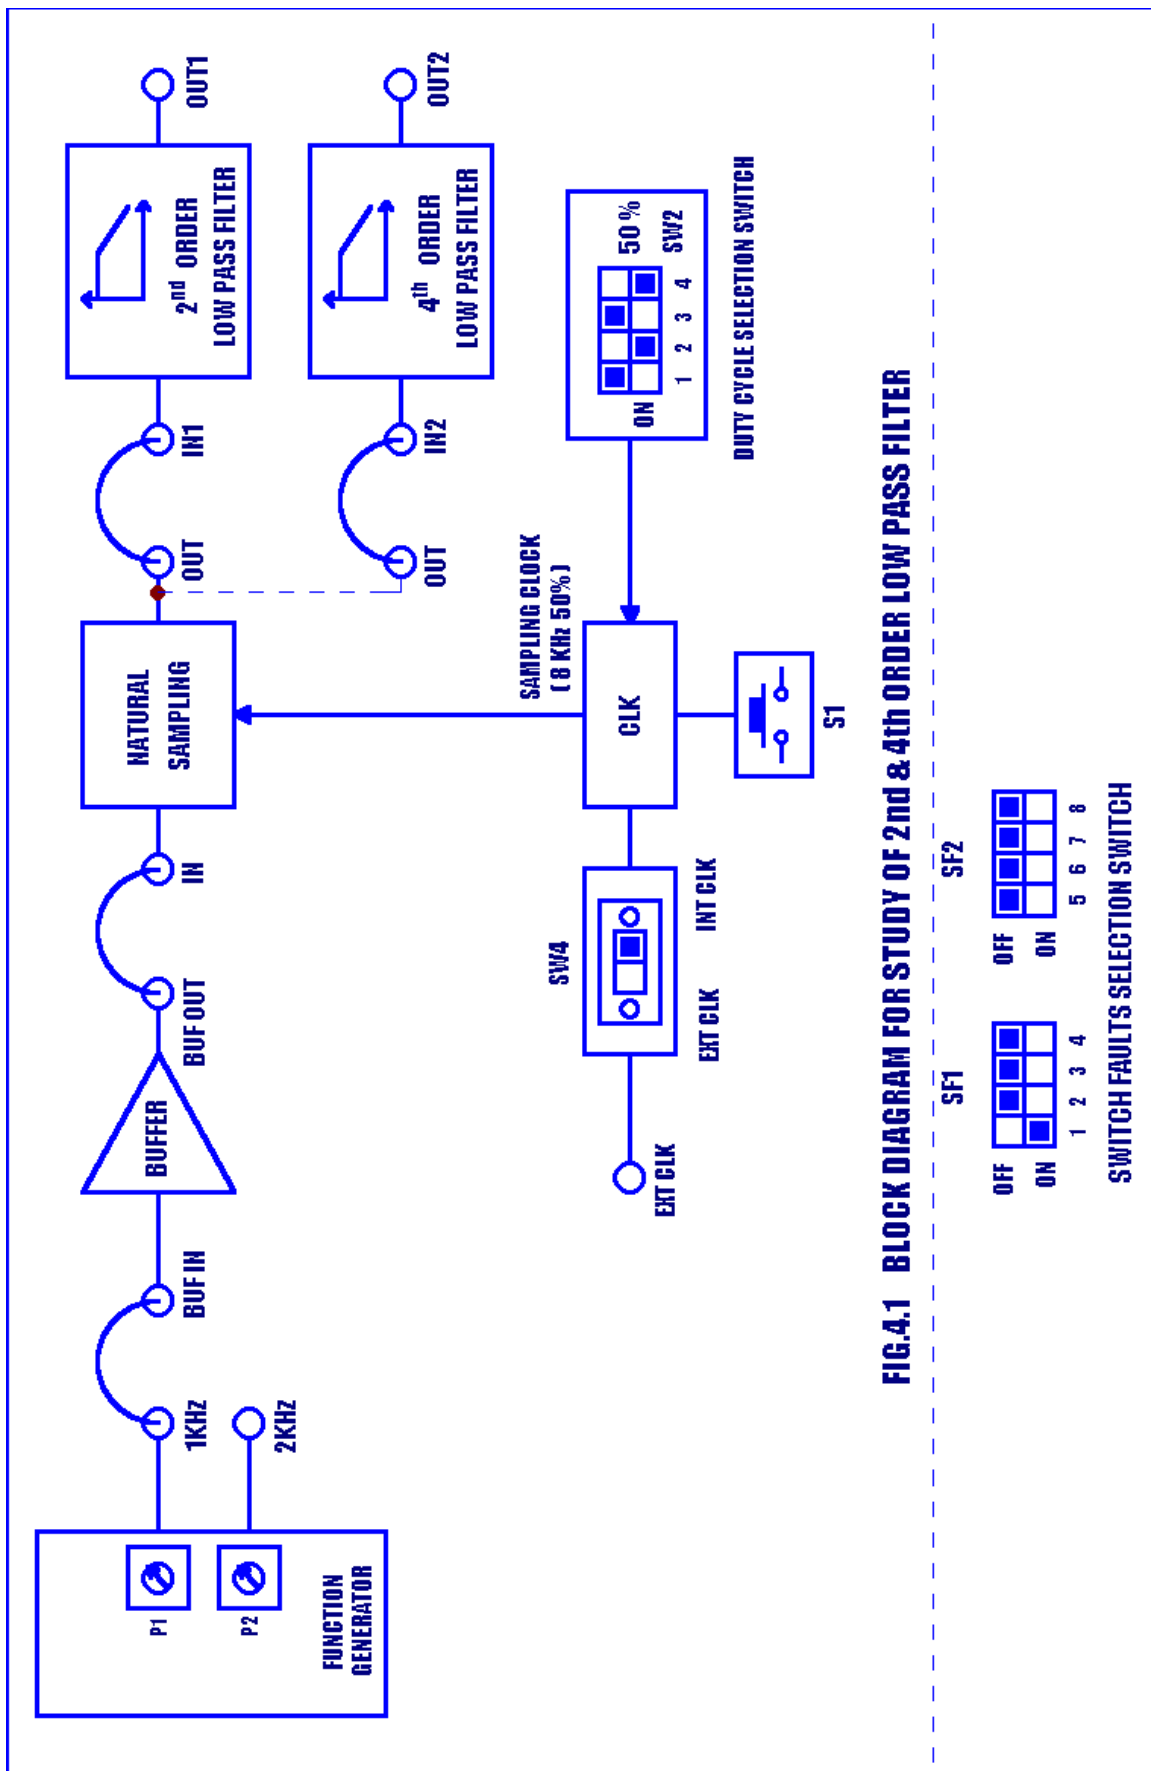

FIG.4.1 BLOCK DIAGRAM FOR STUDY OF 2nd & 4th ORDER LOW PASS FILTER
1. Refer to the Block Diagram (Fig. 4.1) & Carry out the following connections and switch settings.